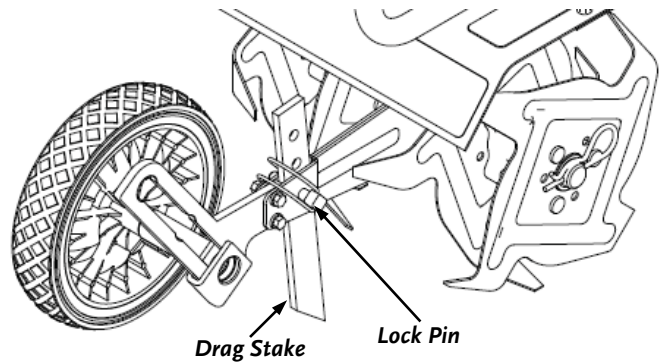

Figure 6
The Drag Stake (**Figure 6**) is used to help regulate tilling depth and control the machine from lurching forward during operation. Set the Drag Stake in its lowest position of three (3) to provide the greatest resistance to forward motion allowing for deeper tilling.